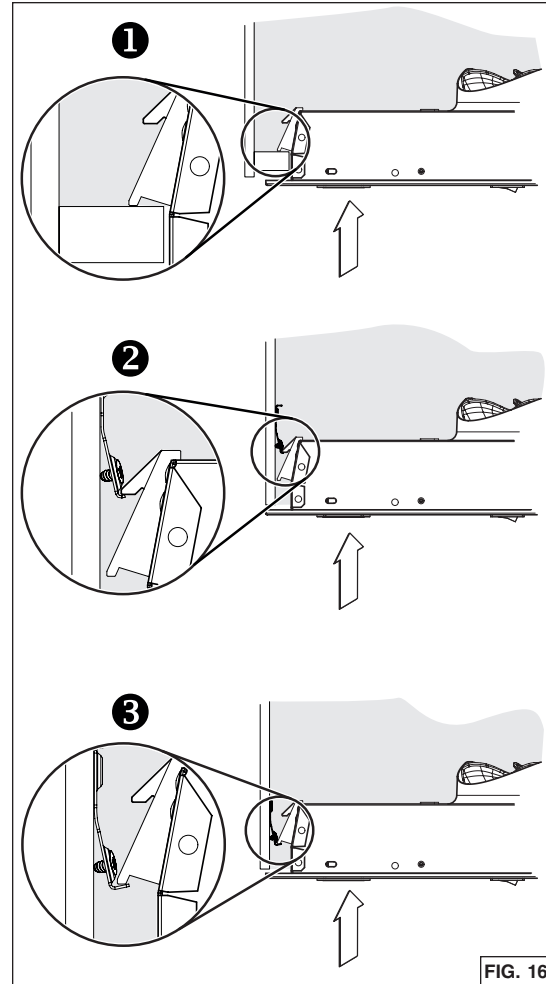

FIG. 16
2. Insert the unit in the cabinet, until you feel a 'click' from both sides of the unit, confirming that the Ease of Install Hooks rest on the top of the cabinet bottom sides ①, or cabinet brackets ② or ③ (FIG. 16). Move the unit from left to right, from rear to front and up to ensure the Ease of Install Hooks are retaining the unit inside the cabinet.